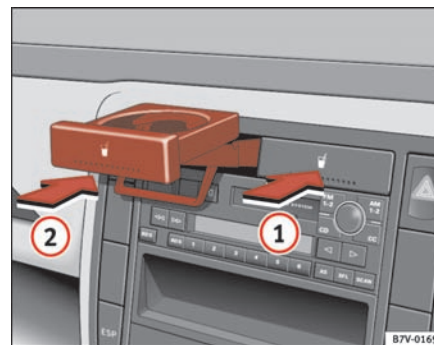

Fig. 106 Cup holder in the centre console
- Push the cup holder up in the direction of the arrow ⇒ fig. 106 until it engages.